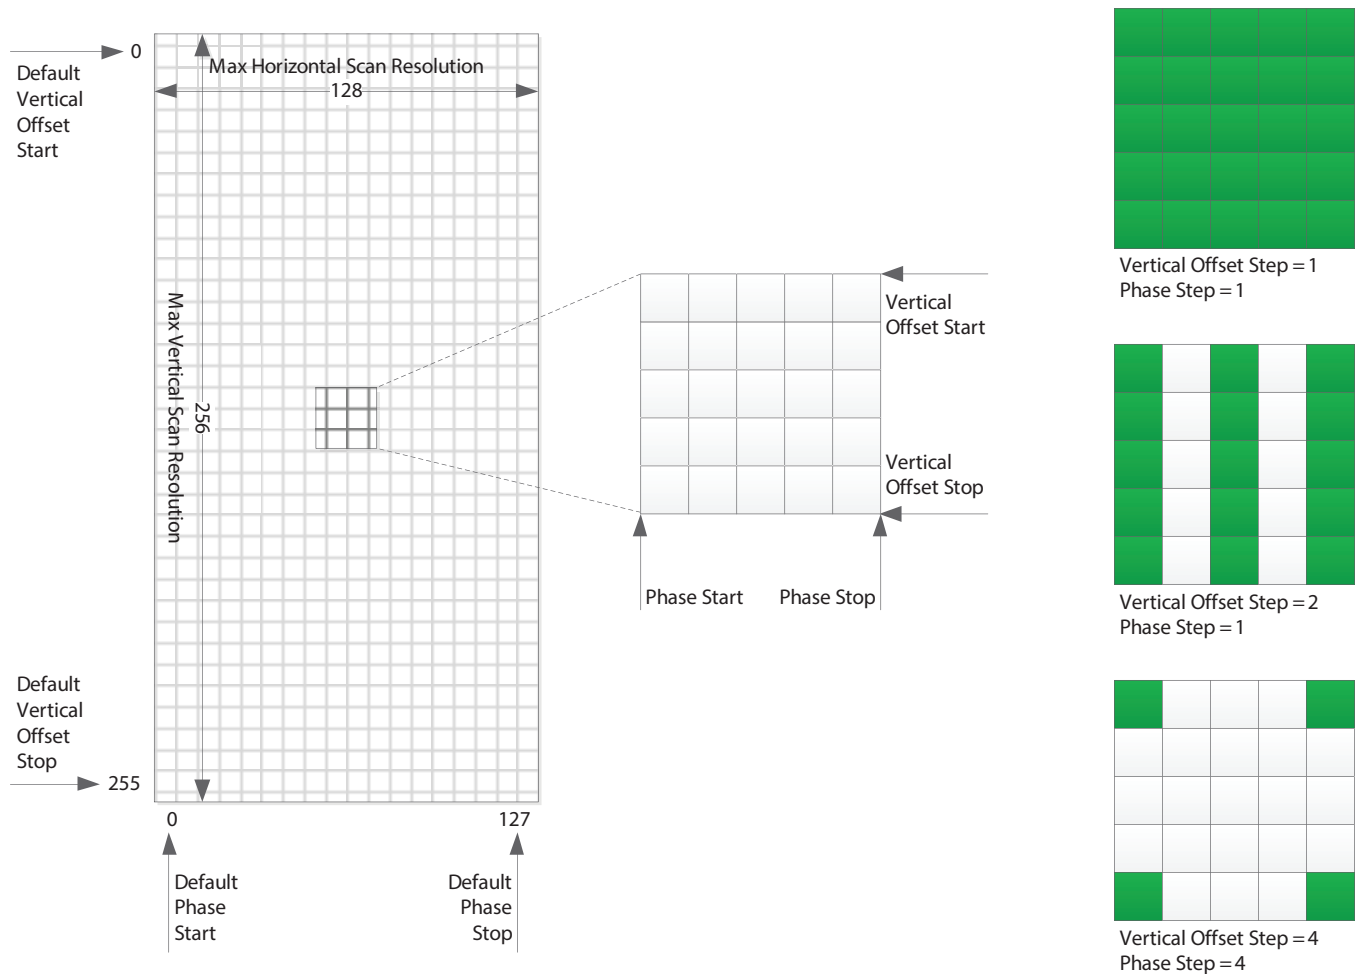

Figure 4-7: Eye Scan Matrix Parameters
Figure 4-7 shows a visual representation of the scan matrix and indicates the spatial parameters that determine the scan area and resolution. Running a scan using the default offset and step parameters, results in 32768 (128x256) samples. The number of samples and thus, the total scan time can be reduced to meet the needs of the application. The scan area can be reduced by reducing the span determined by the vertical and phase start and stop offsets, or the resolution can be reduced by increasing the step size between adjacent samples. On the right in Figure 4-7, there are three step settings used as examples, however there are a total of nine combinations possible. See Table 4-7 for the register addresses and parameter names of the spatial eye scan parameters.
- ♦ Making reference to the Matrix shown in Figure 4-7, the eye scan data starting at $6CC3_h$ is stored in order from left to right, top to bottom, from the last stored vertical/horizontal position in the matrix.